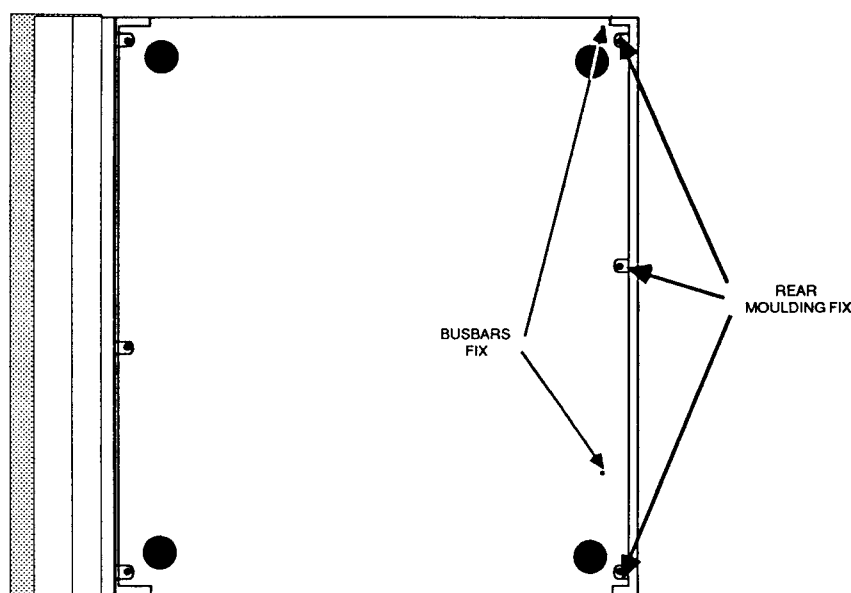

FIG. 3 UNDERSIDE VIEW
8. Stand the unit on one side and remove the two screws and star washers from the underside securing the rear bus bars (see fig. 3).